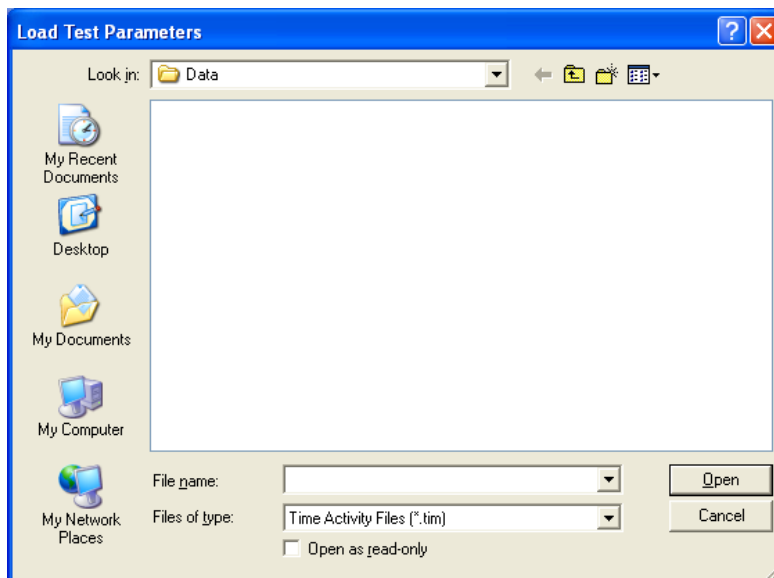

Figure 9-3
- a. To input parameters from a previously saved .tim file, click the **Load from File** button or press *Alt+L*. The screen appears as shown in Figure 9-3. Click on the file name to open it. Parameters are automatically entered into the appropriate boxes.